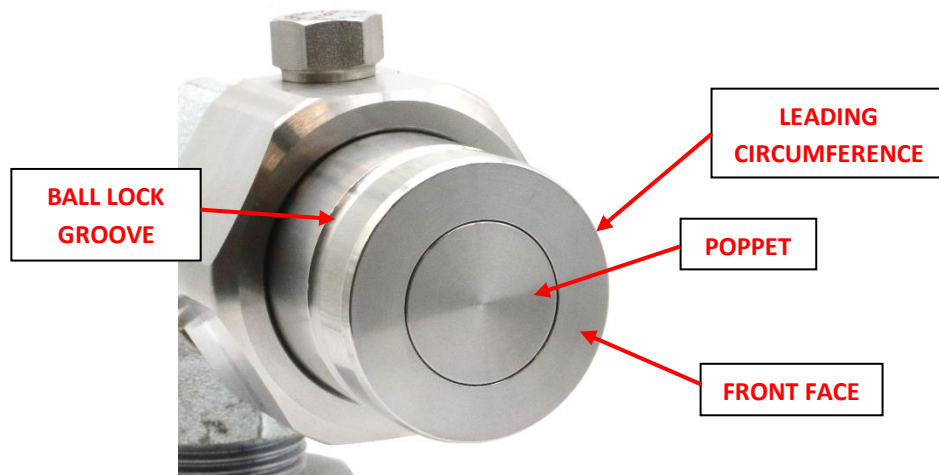
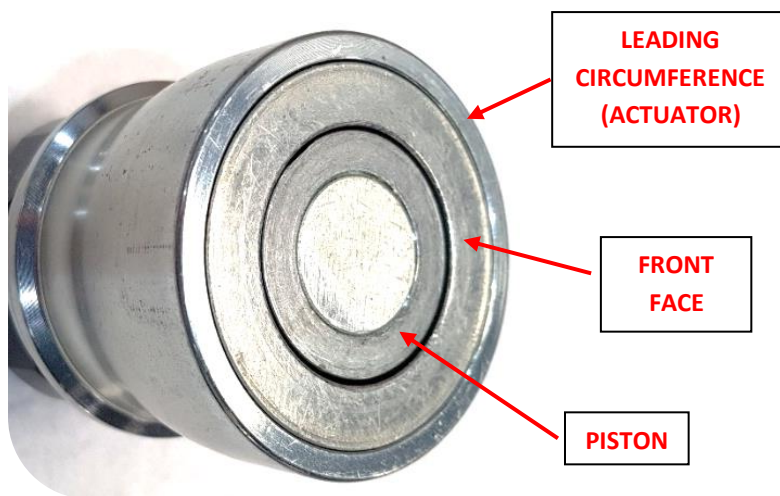

Figure 25 - Critical Areas of Damage on DEF Receivers
Figure 26 - Critical Areas of Damage on DEF Nozzles
- **Closely** inspect the front area of the DEF Receiver (Figure 25) and DEF Nozzle (Figure 26) for excessive wear or damage;
- **Closely** inspect the front area of the DEF **Nozzle** (refer Figure 26), for signs of damage or excessive wear & tear. Excessive wear or damage may cause problems connecting and disconnecting the couplers but will also introduce the risk of unintentional coupler disconnection – i.e. DEF Nozzle “fly off” – during pressurised liquid transfer. Promptly replace any faulty DEF couplers prior to their next required use or place the coupler(s) “Out of Service” until replacement.